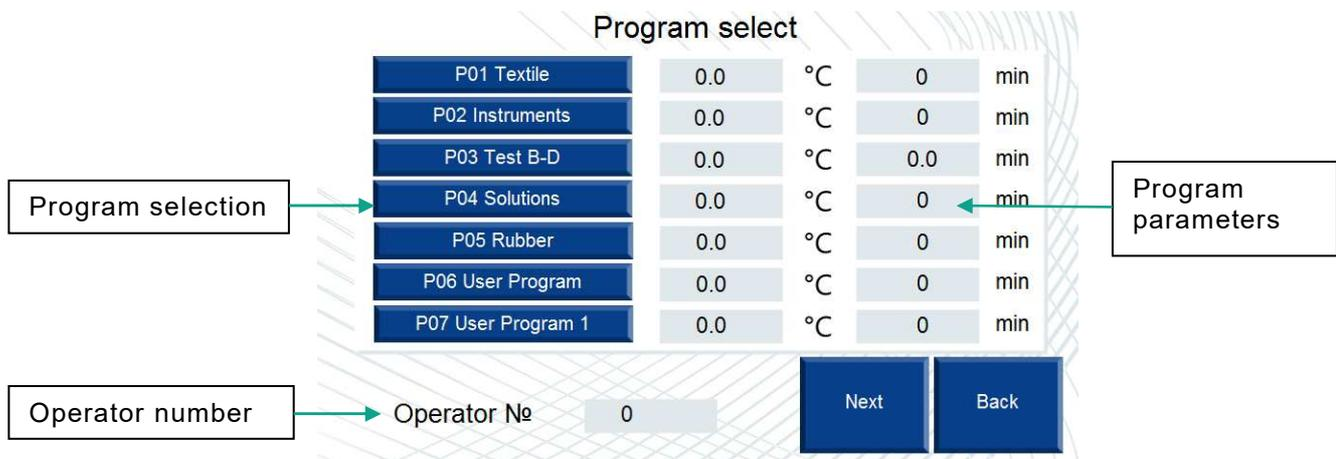

Fig. 9
The „Simulation” message is displayed in this window during printer test. If no program is selected, this window is empty. To select the desired program, go to the program selection screen (Fig. 9) and press the respective button. The selected program is saved upon the completion of the cycle.
**Operator number**– this window displays the number of the operator. The number is entered on the program selection screen (Fig. 9, 10).
**Program** – pressing this button navigates to the program selection screen (Fig. 9).
This screen, as the screen Fig. 9 allows an operator to view the main settings of the sterilization programs, select the desired program and enter the operator number.
**Back** – pressing this button returns to the previous screen (Fig. 9).